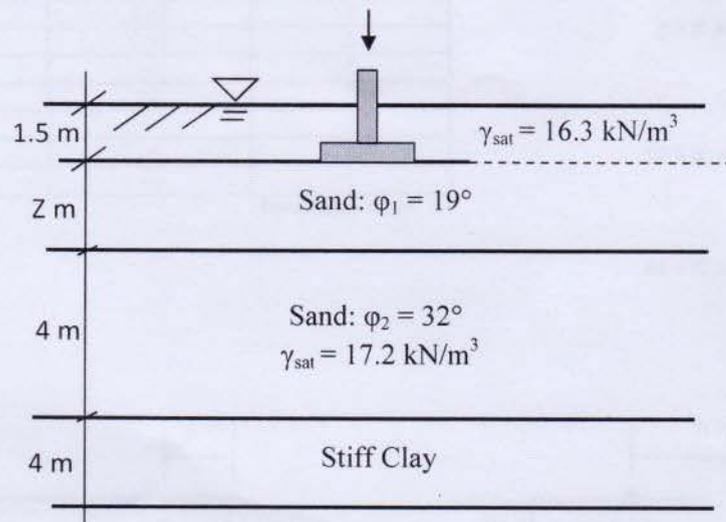

Figure 4
4. According to the soil exploration report, the loose sand layer is overlying medium dense sand as shown in Figure 4 below. The ground water table is located at EGL. The depth of foundation is 1.5 m below the ground level. 10